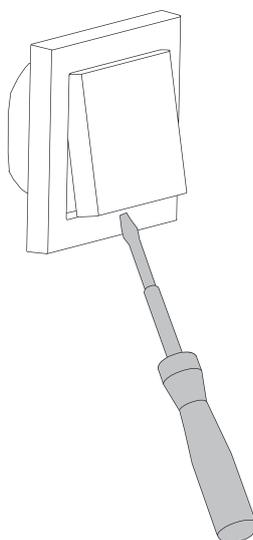

Figure 4: Remove cover
- Insert screwdriver in slot on the bottom (Figure 4) and raise cover (4) carefully.
- i** Do not damage cover (4) and design frame (2).
- Slacken screw (6).
- Remove electronics cover (3) from insert.